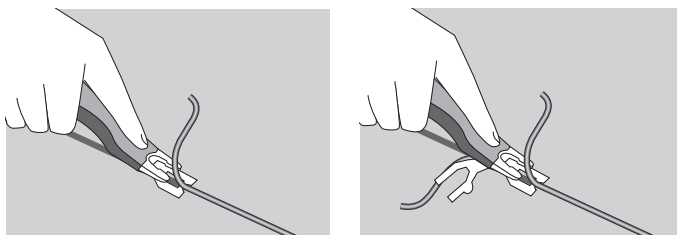

Fig. 1 - Levelling guide under the blade      Fig. 2 - Levelling guide at 90°
- First pass:** make an initial cut by placing the levelling guide under the MOZART knife blade (fig. 1)